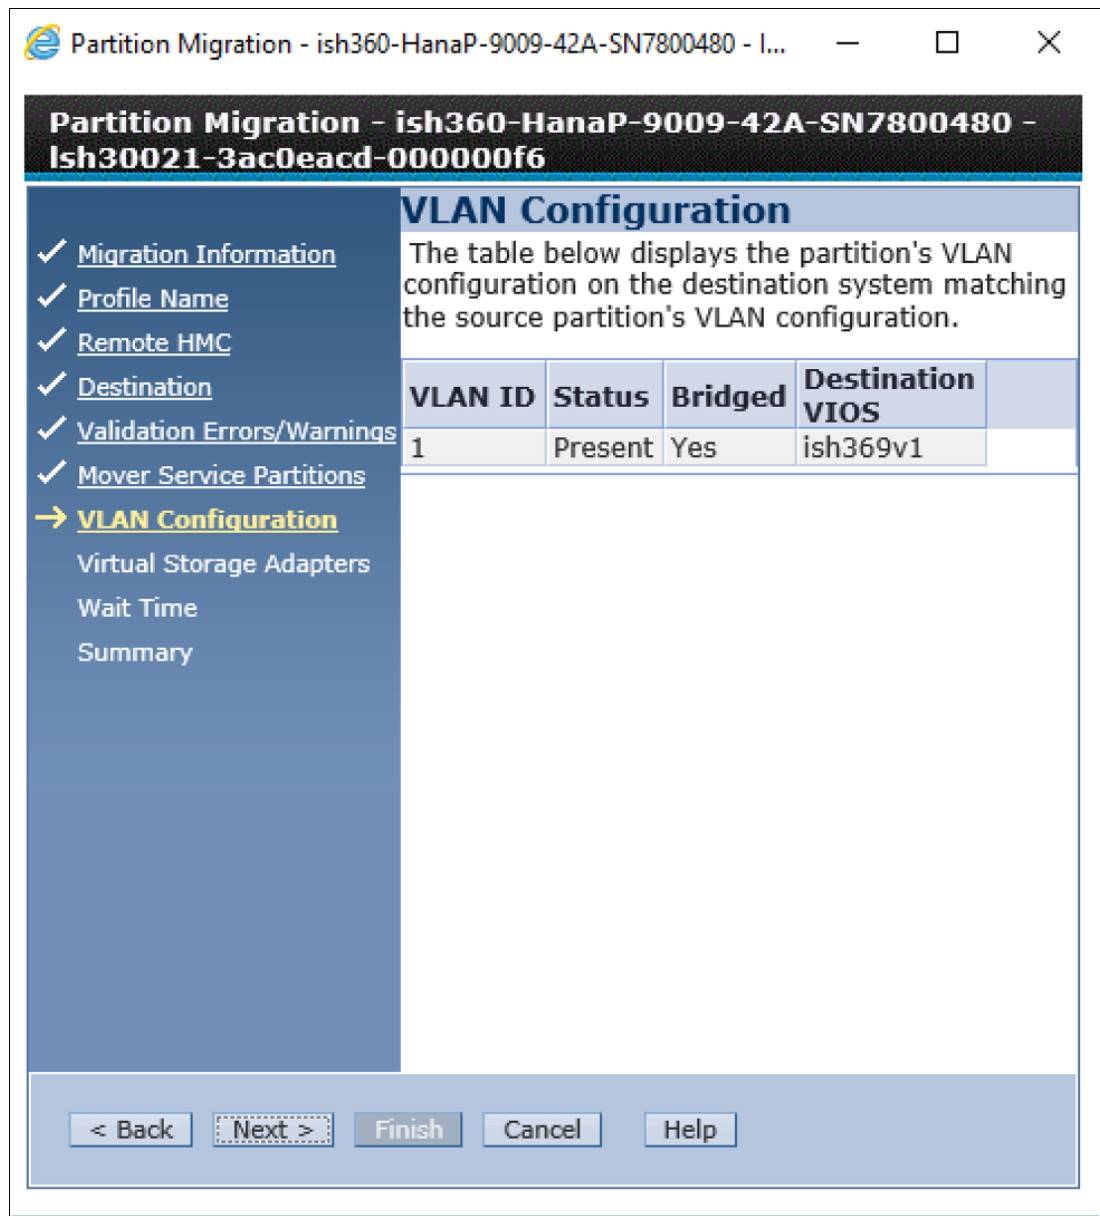

Figure 3-21 VLAN Configuration window: Gathering networking information
6. The network information is gathered, as shown in Figure 3-21.